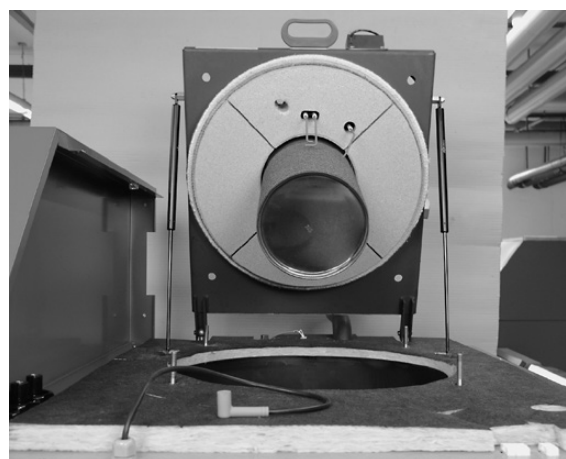

Fig. 28
6. Swivel the burner upwards, with the boiler door (Fig. 28)